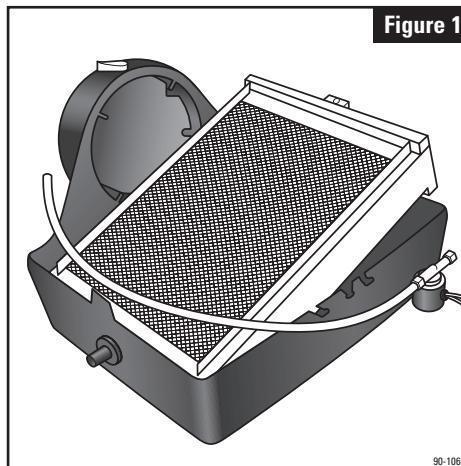
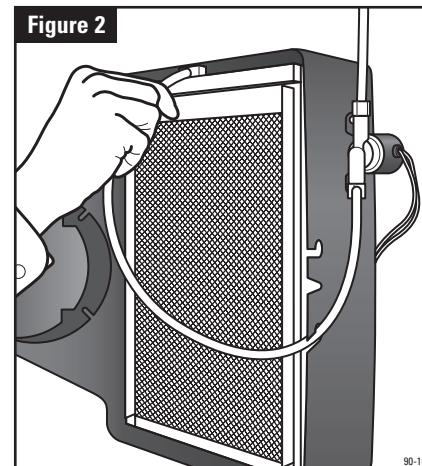

Figure 1
Figure 2
1. Remove front cover by pressing center tabs on top and bottom of the cover (1) and base (2). Pull feed tube (3) out of the water distribution tray (4). Tip the evaporative assembly forward and lift it out of the humidifier. (See Figure 1)
2. The humidifier comes assembled for left side discharge. If converting to right side discharge, the base can be rotated so round collar is facing to the right. Swap the location of the hole plug (10) and drain spud (9) if using a right side discharge. To remove the cap, push and twist from inside the housing while lifting the cap up slightly on the outside. To remove the drain spud, twist and push from the outside of the base.
6. Reinstall the evaporative assembly back into the base, with the bottom of the scale control insert (6) sitting firmly in the inside of the drain spud (9). Push the feed tube
back into the water distribution tray. (See Figure 2) Put the front cover back on. If the nameplate (11) is upside down, remove it and rotate the nameplate so it is right side up, and snap back into place. Turn damper handle (8) to the open position "WINTER" for the heating season, or closed position "SUMMER" for the cooling season.